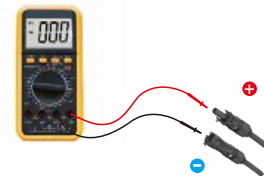
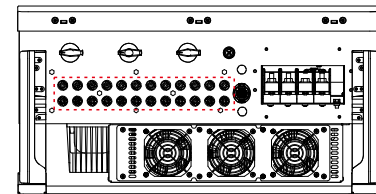

Figure 3.22 Multimeter measurement
Figure 3.23 Connect the DC Connectors to the PV Inverter
5. Measure PV voltage of DC input with multimeter, verify DC input cable polarity (see figure 3.22), and ensure each string voltage is in range of PV Inverter operation. Connect DC connector with PV Inverter until hearing a slight clicking sound indicating successful connection. (see figure 3.23)